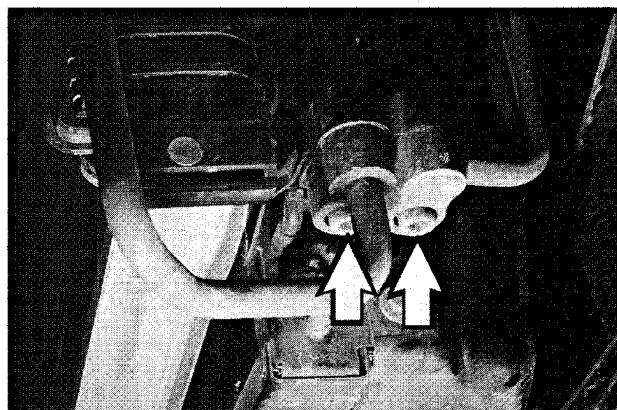

Fig. 41. A/C flange bolts at condenser (arrows).
- Detach A/C lines from lower right corner of condenser. Plug lines immediately. See Fig. 41.